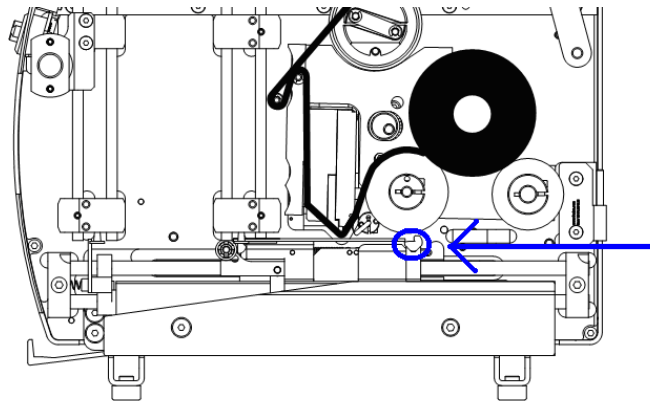

Figure 65 - Push this steel jaw to the left with the power off to move left
6. To move to the right, press the roller part in (**Figure 65**) to the right
2. Using an Isopropyl Alcohol Wipe or lint free cloth with dampened with ethanol or IPA; rub the bottom of print-head (heater line) firmly across the print-head, along the edge that contacts the slide, several times until no residue is visible on the wipe (see Figure 65)